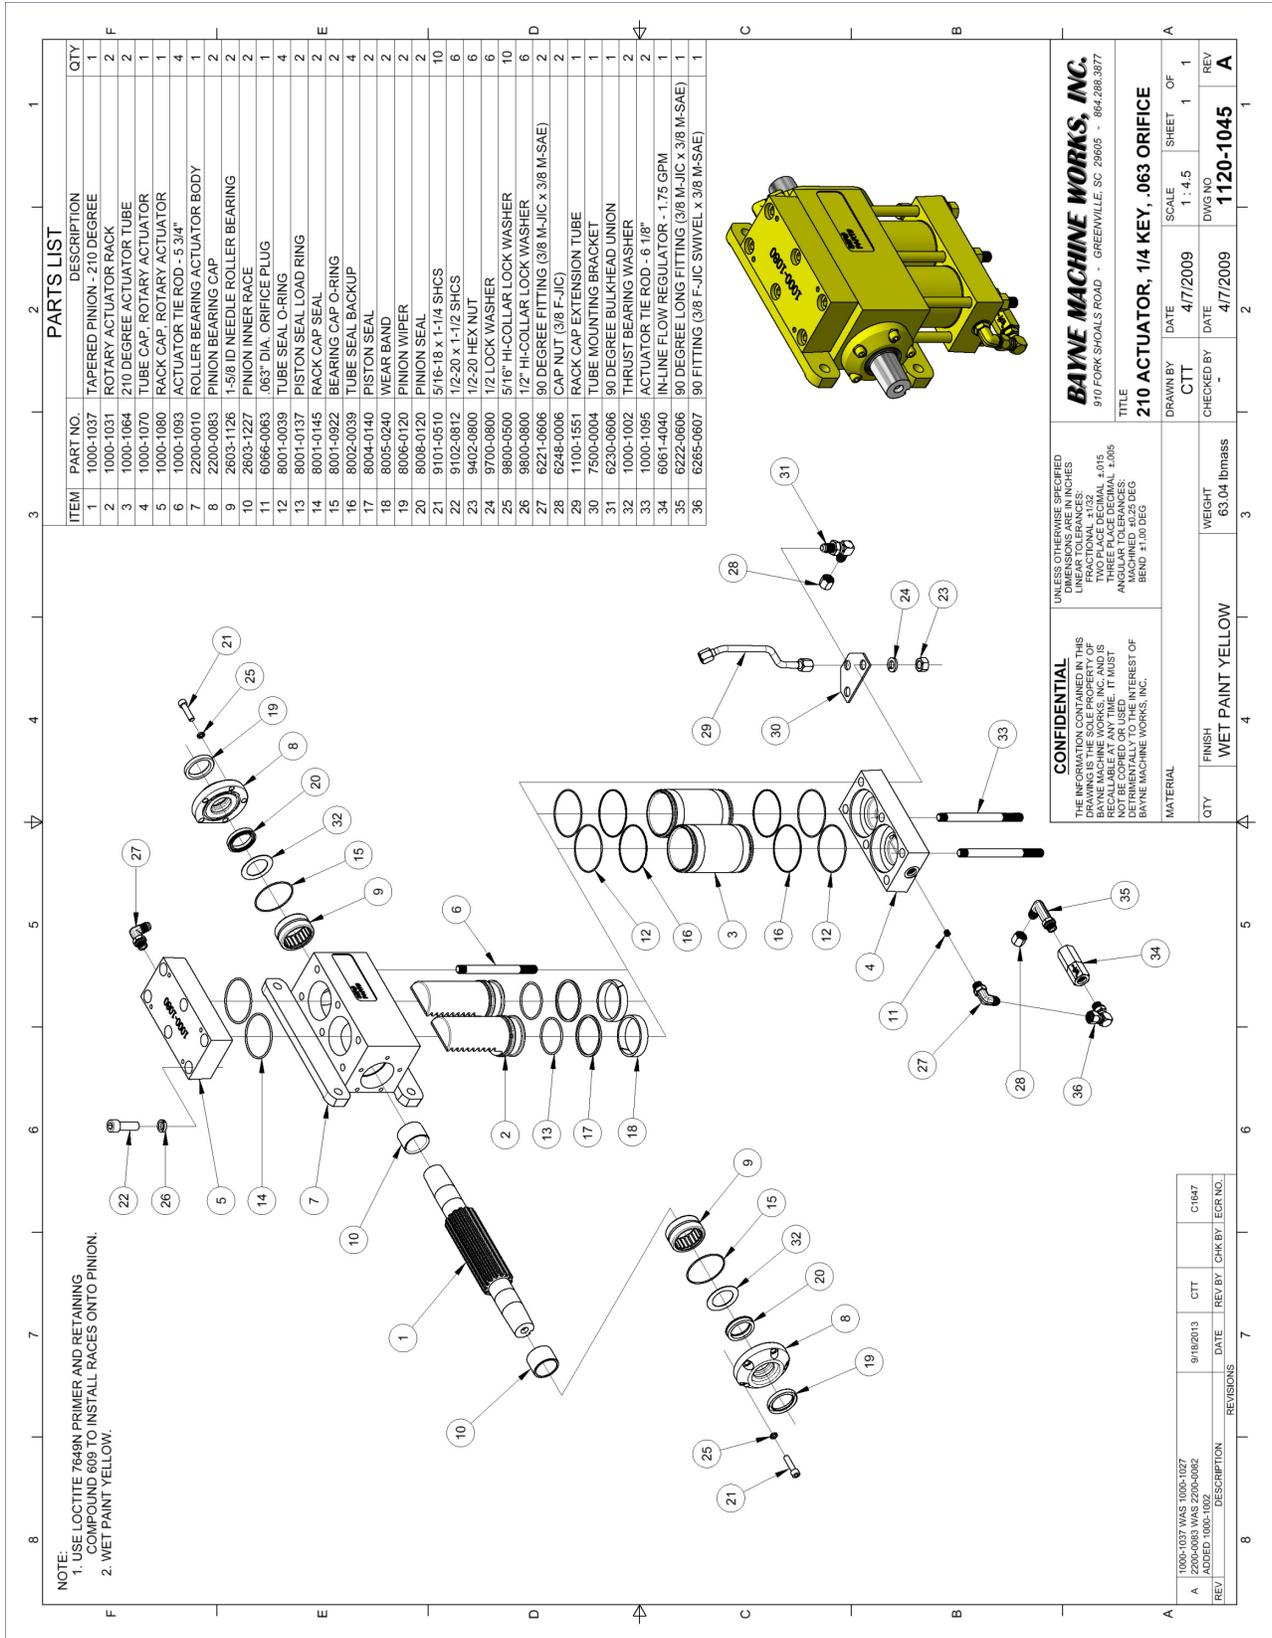

figure A-13
Before starting the assembly of the Rotary Actuator, refer to the exploded parts drawing and parts list (fig. A-13 found at the end of these instructions) to familiarize yourself with the individual components. Prepare a clean surface, in an area free of blowing dust and contaminants in which to assemble the Rotary Actuator. Be sure that all parts are thoroughly clean and dry before starting assembly.
2. Install the tube seal (12) (fig. A-2) and “square” tube seal backup (16) on each end of the actuator tubes (3) (fig. A-13). Be sure that the “square” tube seal backup ring is toward the inside of the tubes at both ends as shown. Press all rings firmly into the grooves. Repeat this procedure for the other tube.
- Coat the head portion of the racks (2) (fig. A-13) with STP Oil Treatment. Install the racks, head portion up with the teeth facing the flanges of the actuator body, into the dual set of bores in the body. Simultaneously slide the racks into the bores so that the racks mesh with the pinion in the same position. Rotate the pinion shaft to engage the racks into the pinion.
7. Coat one end of the actuator tubes (3) (fig. A-13) around the seal area with STP Oil Treatment as shown in figure A-7. Using a rubber mallet, drive the coated end of the tube onto the exposed rack until the tube end seats in the actuator body, making sure that the seals remain in place as the tube enters the counter-bore. Repeat this procedure for the other side.
8. Install the four tie rod studs (6) and two tie rod studs (33) (fig. A-13) by screwing the short threaded end into the actuator body. Hand tighten only at this time (the torque needed will be applied later in the procedure).
9. Place the tube cap (4) (fig. A-13) on the table. Coat the sides of the two bores in the tube cap with STP Oil Treatment. Install the cap over the tubes and rod studs with the oil port positioned to the left as shown in figure A-13. Using a rubber mallet, tap the tube cap over the tubes until the tubes seat in the cap, making sure that the seals remain in place.
10. Place the tube mounting bracket (30) (fig. A-13) over the two end rod studs opposite the oil port in the tube cap as shown in figure A-13.
11. Install the hex nuts (23) (fig. A-13) and lock washers (24) on the tie rod studs. Torque the nuts to 50 ft-lb. in the sequence shown in figure A-8.
12. Place the rack cap (5) (fig. A-13) bore side up on the table and coat the edge of each bore with STP Oil Treatment. Install the rack cap seals (14) (fig. A-9) in the rack cap.
13. Reposition the actuator on the table mounting flanges down, and the lower tubes facing away from the assembler. Rotate the pinion shaft to allow 1" of the rack to protrude from the top of the actuator body. Install the rack cap with the oil port positioned to the left hand side of the actuator opposite the bottom oil port located in the tube cap as shown in figure A-13. Attach the rack cap to the actuator body using the socket head bolts (22) (fig. A-13) and lock washers (26). Torque the bolts to 90 ft-lb. in the sequence shown in figure A-10.
15. Re-center the actuator pinion in the actuator body by tapping on one end of the shaft with a rubber mallet. Install the roller bearing (9) (fig. A-13), over the pinion shaft and inner race, and into the actuator body. Repeat this procedure for the other bearing.
18. Wrap masking tape or electrical tape around the pinion to cover the edges at the keyway. Slide the bearing cap assembly over the pinion shaft with the bearing cap seal facing toward the actuator body and the flat surface of the flange shown in figure A-12 facing toward the actuator mounting flanges. Press against the bearing cap until the shoulder seats against the actuator body, making sure that the seals remain in place. Install the bearing cap bolts (21) (fig. A-13) and lock washers (25). Hand tighten only at this time. Repeat this procedure for other bearing cap.
20. Install the 90° fitting (27) (fig. A-13) into the oil port on the side of the rack cap (5). Hand tighten only at this time.
21. Install the 90° bulk-head fitting (31) (fig. A-13) up through the hole in the tube mounting bracket (30) bolted to the tube cap as shown in figure A-13. The 90° end must be pointing back toward the mounting flanges on the actuator body. Hand tighten only at this time.
22. Install the rack cap extension tube assembly (29) (fig. A-13) between the fitting in the rack cap and the bulk-head in the tube mounting bracket as shown in figure A-13. Tighten all connections.
23. Install the orifice plug (11) (fig. A-13) into the oil port on the side of the tube cap (4), and install the 90° fitting (27) into the oil port over the orifice plug as shown in figure A-13. Install the flow regulator (34) and necessary fittings (35) and (36) as shown and tighten.
24. Install the cap nuts (28) (fig. A-13) onto the open fittings to prevent contamination of the unit until the hoses are installed.